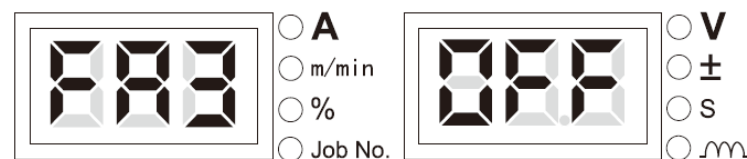

Figure 3-33 FA3 display interface
1. Access the internal menu, switch the knob on the control panel of the welder to **FA3**. The LED screens display the message shown in Figure 3-33.